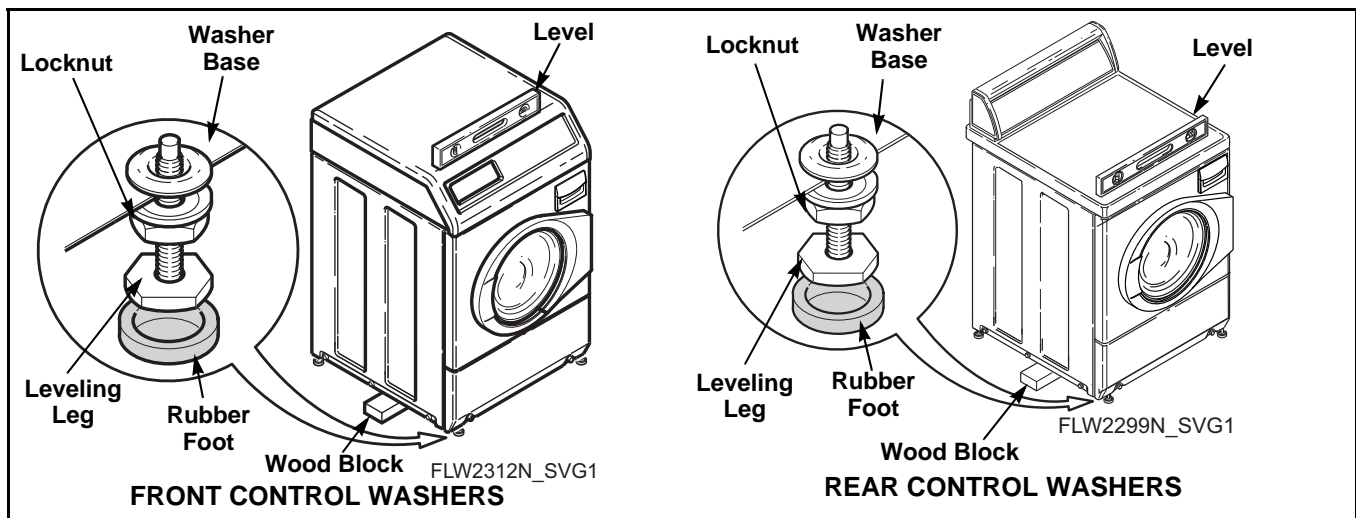

Figure 3
- Place level on washer, refer to *Figure 3*, and check if washer is level from side to side and front to back.
**NOTE:** Level must rest on raised portion of top panel. Refer to *Figure 3*.
- If washer is not level, tilt washer to access front and rear leveling legs. For easier access to leveling legs, prop up washer with wooden block. Refer to *Figure 3*.
- Loosen locknuts and adjust the leveling legs until the washer is level from side to side and front to back (using a level). **Make sure washer does not rock.** Refer to *Figure 3*.
- Place rubber feet on all four leveling legs. Refer to *Figure 3*.